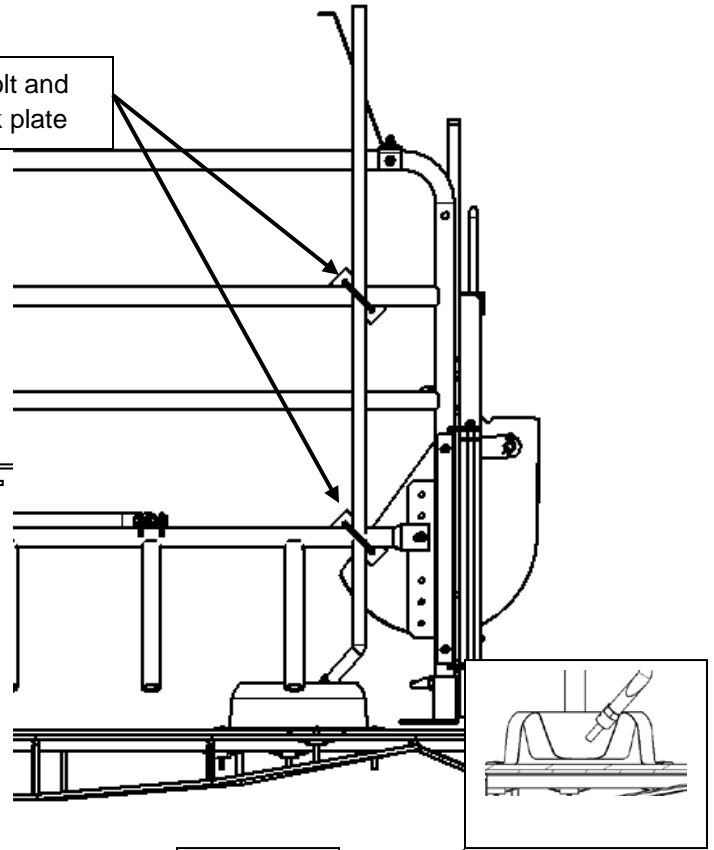

Figure 2
2. Position HS610-1 water pipe/nipple assembly along crate sides so that water nipple is presented to sow as shown. Attached HS610-1 water pipe/nipple assembly using appropriate sized U-Bolt and plate to fit crate pipe size. **See figure 2**